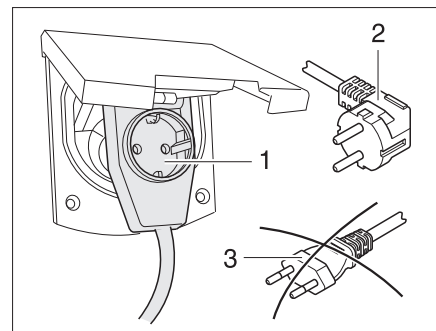

Fig. 94 Connecting an angled connector with socket
- ▶ If a CEE 17 angled connector with socket mounted on rear (Fig. 94,1) is used, use only a rubberised and sealed IP 44 plug with earth contact (Fig. 94,2). Do not use a plug without earth contact (Fig. 94,3). Danger of electrocution!